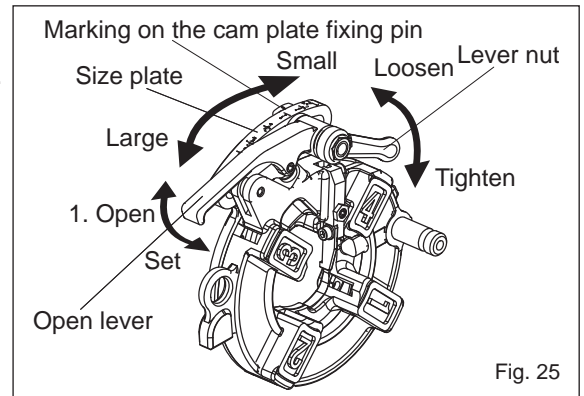

Fig. 25
Loosen the lever nut on the die head and match the marking on the cam plate fixing pin with the pipe size on the size plate; then retighten the lever nut. (Fig. 25)
- Care when the dies come into contact with the pipe (Fig. 25)